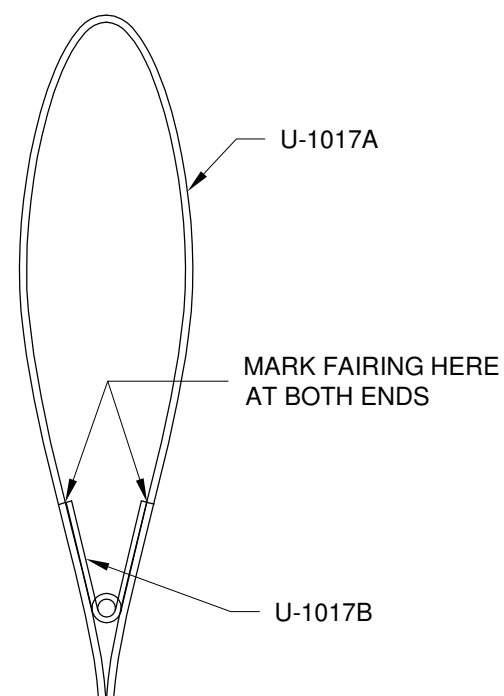

FIGURE 1:
Step 1: Position the U-1017B Gear Leg Fairing Hinge and hinge pin inside the U-1017A Gear Leg Fairing as shown in Figure 1. With the trailing edge of the fairing taped closed turn the fairing trailing edge down to allow the hinge to locate itself.
Do not force the hinge farther aft (down) into the fairing. When assembled the hinge should be holding the trailing edge closed with a slight amount of pressure. Mark the fairing as shown in Figure 1 so that the hinge can be put back in the same place later.